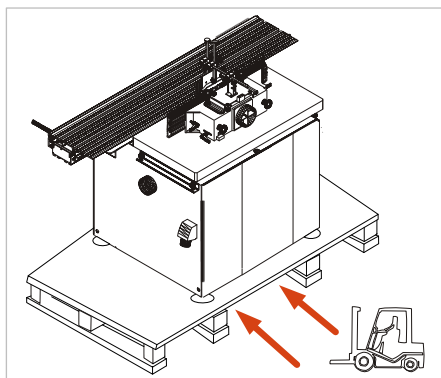

Figure 4: Unloading with a forklift truck
- Then feed the forks of the forklift truck as shown in ⇒ Figure 4.